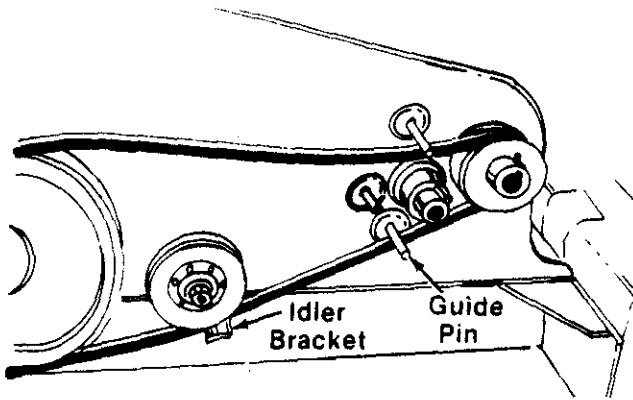

FIGURE 24.
- Remove the belt and install the new belt. Be sure the belt is routed around the guide pins as shown in figure 24.
Belt must be between the "V"-idler pulley and the idler bracket. See figure 24.